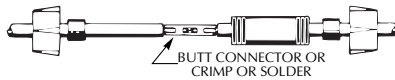

FIGURE 11
6. Insert wire end into butt connector and crimp (see Figure 11). **Be sure** to match cable and motor wire colors